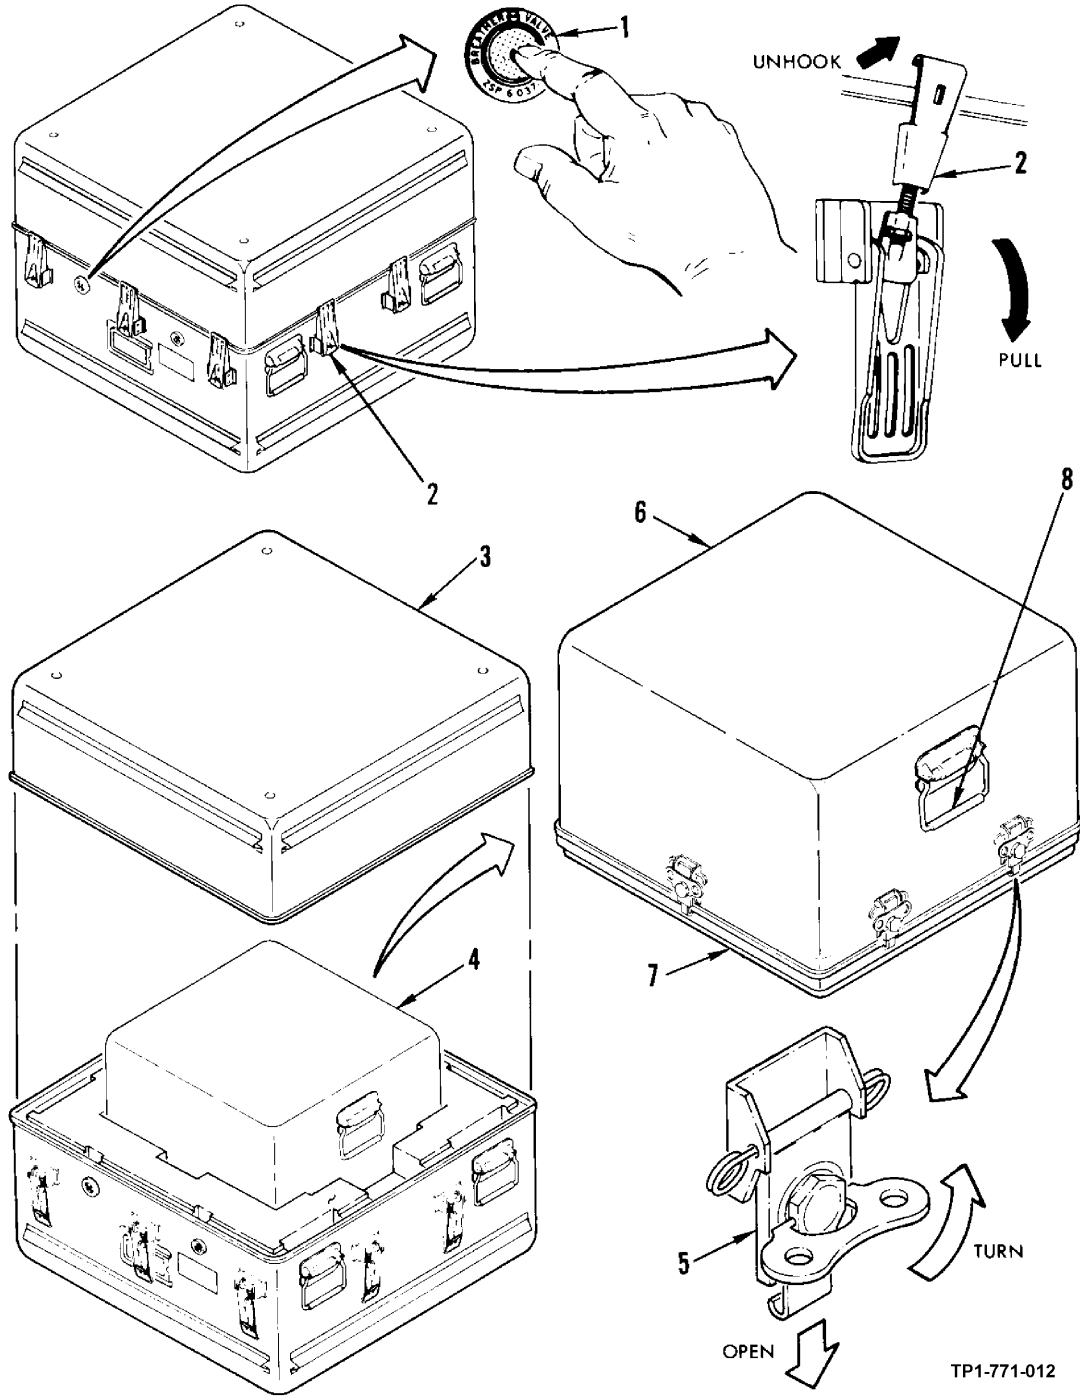

Figure 2-24. Inner Case Removal from Shipping and Storage Container
- (1) Press pressure relief (1, figure 2-24) on container.
- (2) Release and unhook container latches (2).
- (3) Remove container cover (3) and set aside on clean dry area.
- (4) Remove case assembly (4) from container and place on workbench.
- b. Release and disengage latches (5) securing case assembly (top cover) (6) to base assembly (7).
- c. Grasp handles (8) and lift case clear of base assembly. Place case assembly on clean dry surface.